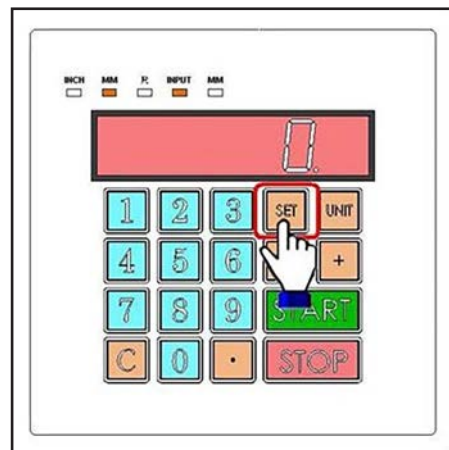

**Figure 30.** Pressing SET button.
1. Press SET button. Display will enter input mode and show the number 0 (see **Figure 30**).